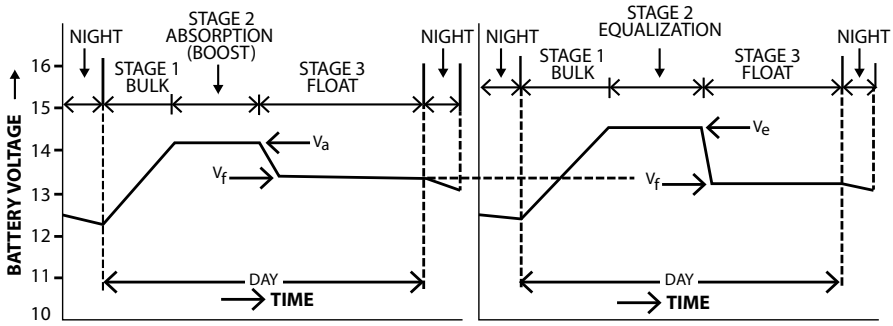

Fig 4.1A - Normal Charging Cycle (12V, Flooded)
Please refer to Figs 4.1A and 4.2B above
- **Normal Charging Cycle (Fig 4.1A):** This cycle is used for normal day-to-day charging. Charging is sequential: Stage 1: Bulk Stage (Maximum available Current = Instantaneous Short Circuit Current "Isc" of the panel) → Stage 2: Absorption (Boost) Stage (Constant Voltage) → Stage 3: Float Stage (Constant Voltage).
Please refer to Fig 4.1A